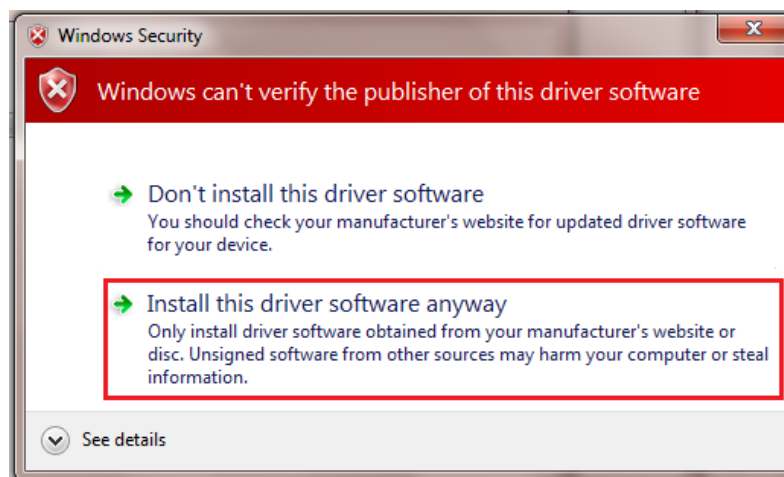

Figure 14 • Windows Security Message
15. A Windows Security message is displayed as shown in Figure 14. Click **Install this driver software anyway**.